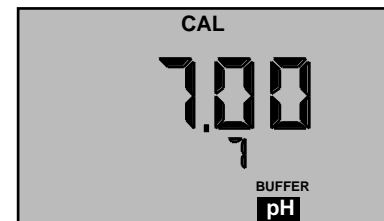

Figure 6
4. Press **CAL/MCLR** to enter calibration mode. The “CAL”, “BUFFER” and “7” annunciators will appear (see Figure 6). Displayed value